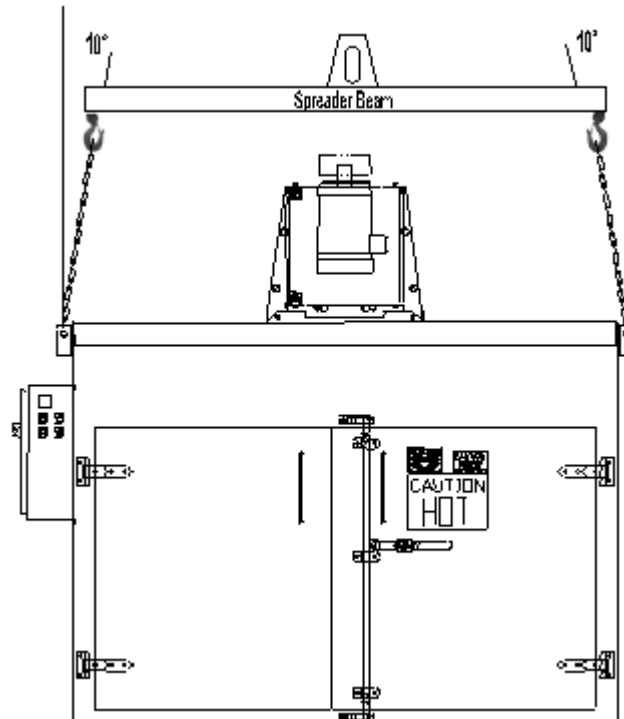

Figure 2: Typical Rigging
Special care must be taken in handling this equipment due to its configuration, size and weight. Lifting lugs are provided at the (4) top corners on most models. It is important to note that rigging cables or chains must not exceed a maximum angle of 10 degrees from vertical (see Figure 2). Use a spreader beam, or rigging of adequate length, to avoid damage to the equipment. **Please refer to any attached drawings for specific assembly and rigging instructions.**